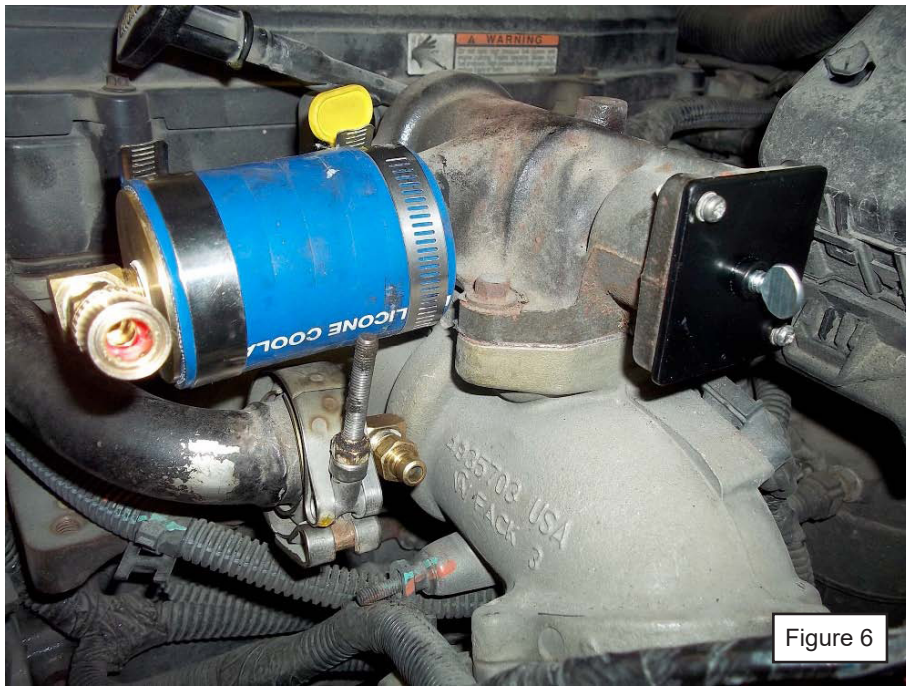

Figure 6
- Turn thumbscrew on EGR Manual Opener (EEDF400-385) fully counterclockwise but do not remove it from the adapter. Remove EGR valve solenoid (4 screws) and set aside, install EGR Manual Opener in its place using only two screws. Disconnect EGR valve solenoid electrical connector. Rotate thumb screw fully clockwise, EGR valve is now open (see figure 6). Alternately, a scan tool can be used to command the solenoid valve open and removal of the solenoid is not required, however the EGR valve solenoid electrical connector must be connected.